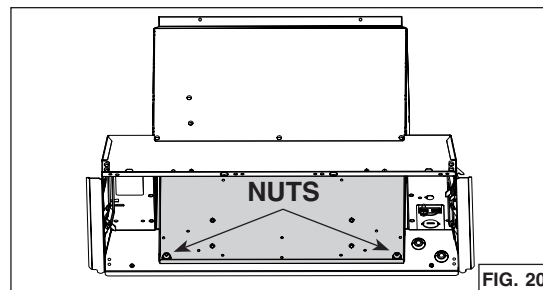

FIG. 20
7. From inside the unit, detach the back plate (grey part in FIG. 20) by removing its both retaining nuts using 3/8" diameter socket. Set aside the nuts and plate.